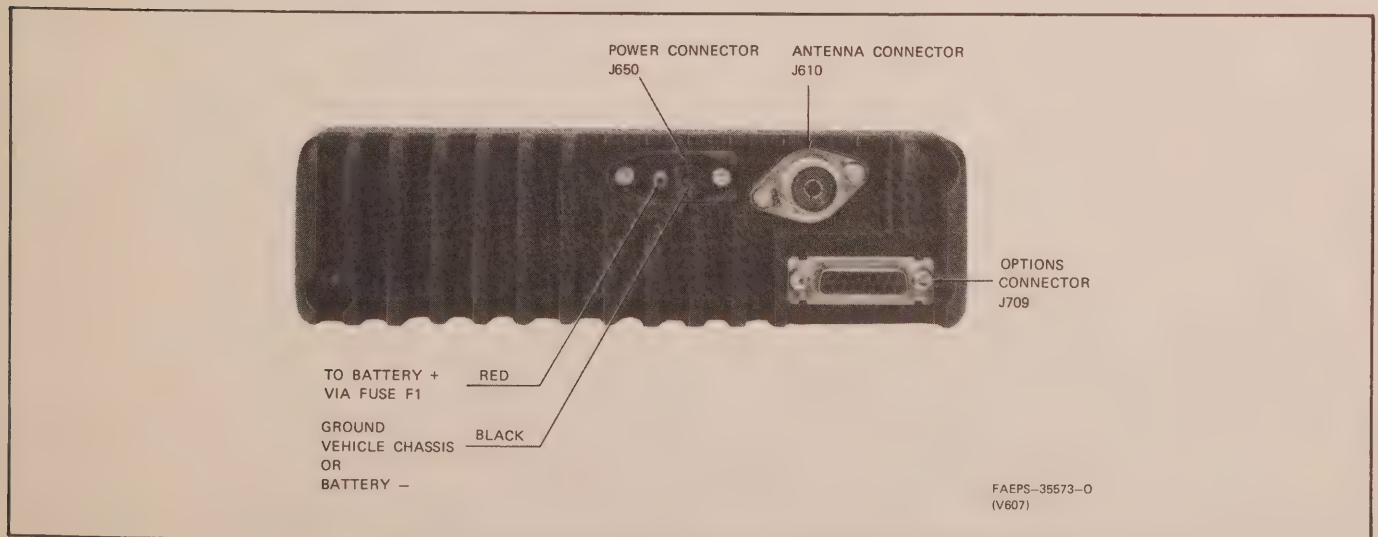

Figure 6. Connections to Radio Set Rear Panel
Step 4. Connect the power plug and coaxial cable connector to the radio set. See Figure 6. Install the radio in the mounting bracket.